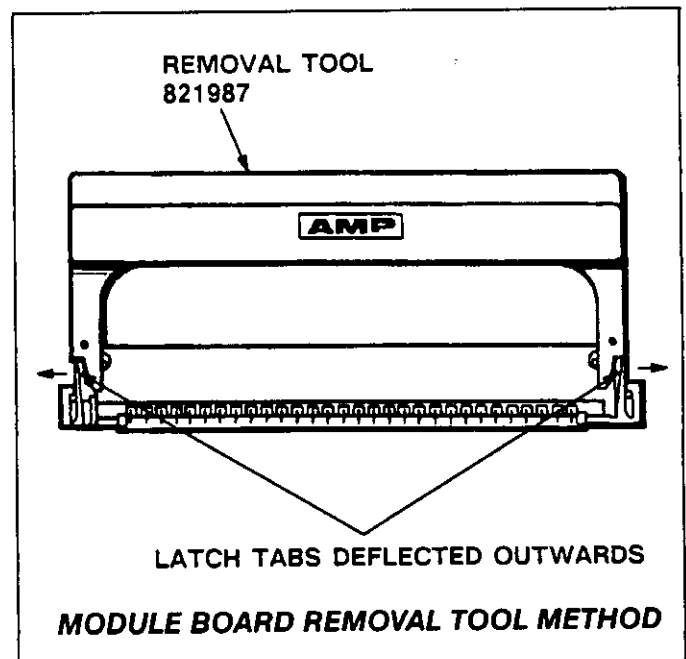

Fig. 5
B. Module Board Removal Tool Method (Figure 5)